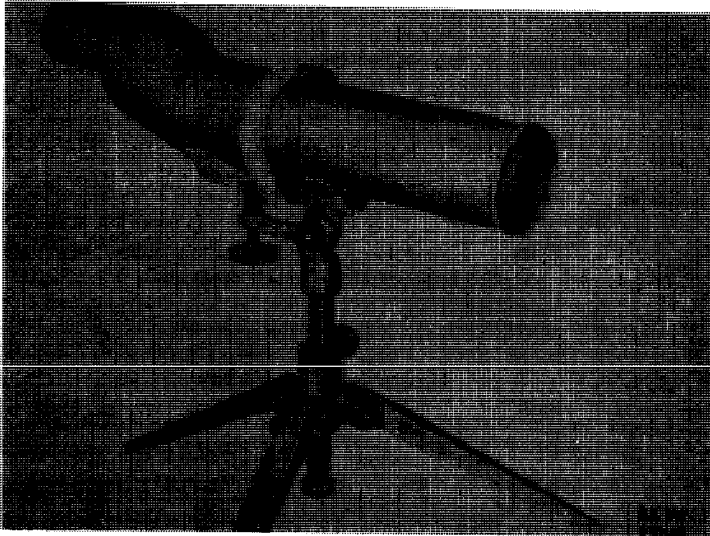

Figure 4-Observation Telescope M49 and Tripod M15
a. The Tripod M15 provides a rest for the Telescope M49 and steadies it when in use. The telescope rests in the cradle and is held in place by a leather strap (fig. 4). With the folding legs of the tripod fully extended, the eyepiece of the telescope is approximately 11 inches above the surface upon which the tripod rests. With this tripod, the telescope can be swung around to any desired position. An elevating screw is also provided for elevating or depressing the forward end of the telescope as necessity requires.